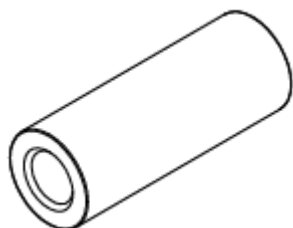

Fig. 48 Longitudinal nut M12
3. Put the beam onto the anchors. For outermost anchors (Pa- points, Fig. 50) insert aluminum washers M12 (Fig. 49) to the top chamber from the beam ends. Longitudinal nuts M12 (Fig. 48) are inserted onto the anchor thread from the inside of the beam through the opening. Tightening torque according to the anchor manufacturer's recommendations.
3. Put the beam onto the anchors. For outermost anchors (Pa- points, Fig. 51) insert aluminum washers M12 (Fig. 49) to the top chamber from the beam ends. Longitudinal nuts M12 (Fig. 48) are inserted onto the anchor thread from the inside of the beam through the blade opening. Tightening torque according to the anchor manufacturer's recommendations.